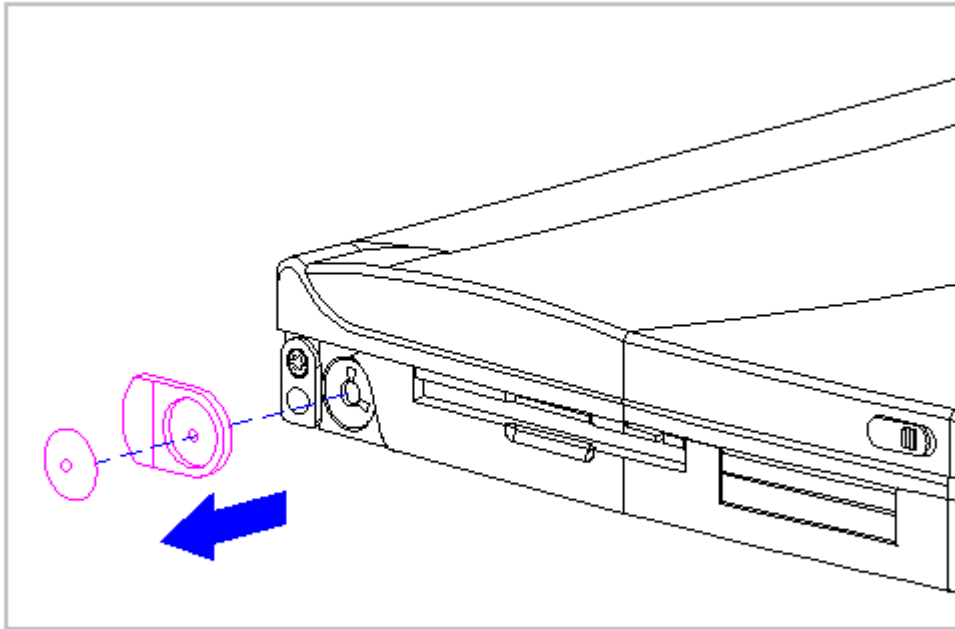

Figure 3-7. Removing the Tilt Foot
2. Using a Torx T8 , remove the tilt foot screw (Figure 3-7). Screws from the tilt feet are not reusable and must be discarded.
3. Remove the tilt foot (Figure 3-7).